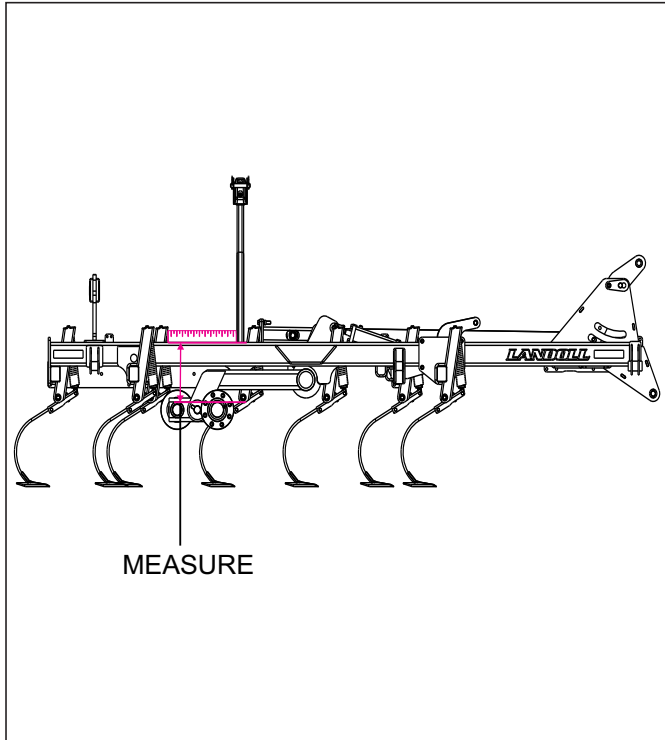

Figure 4-8: Leveling Center Frame from Side to Side
- To level the unit, verify that all tires are properly inflated. With the implement unfolded, raise the unit to fully extend the lift cylinders. Continue to hold the tractor lever 30-60 seconds to insure that the cylinders are fully extended and the rephasing lift system has been purged of air. Lower the implement until the sweeps are approximately 1" off the ground. On the center frame, lay a straight-edge across the top of the frame, and measure the distance from the walking tandem spindle to the top side of the frame of the walking tandems *See Figure 4-8*.